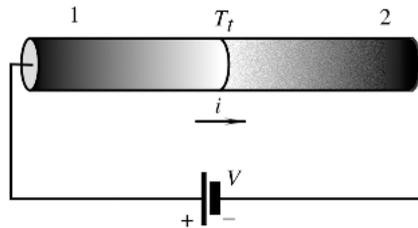

Figure 5: Peltier effect in single junction.
- (5p) (f) Figure 5 shows a single junction of two different materials. Explain (in maximally 200 words) why the Peltier effect results in the production or liberation of energy at a junction when a current is passed through this junction.